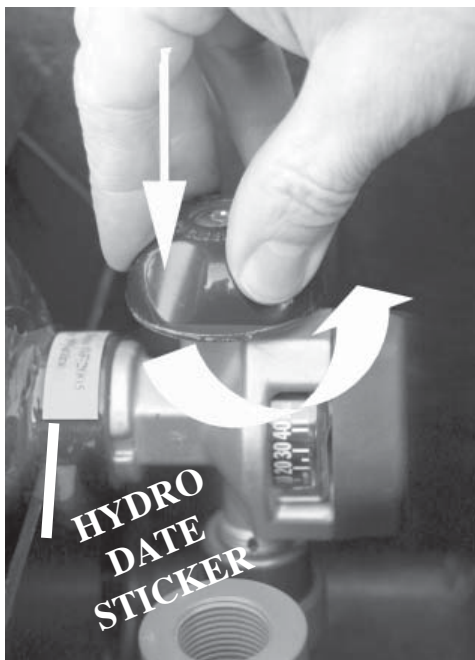

figure 3
3.0 PREPARATION FOR USE: First unpack the unit and check for damage caused by shipping. Next, open the case.. Verify the hydrostatic test date of the supply cylinders, shown on a sticker prominently displayed on the cylinder (figure 2) and on the neck of supply cylinders (figure 3). This should also be written on the maintenance log, located on the lower right hand corner of the instruction sheet.
- △ 3.1 NOTE: THESE CYLINDERS (CYL1) REQUIRE HYDROSTATIC TESTING EVERY 5 YEARS, BY A DOT-APPROVED TEST FACILITY. CHECK DATE STICKER ON CYLINDER (figure 2), OR ON CYLINDER NECK. (figure 3)
5.2. Open the valves (VAL1) on the supply cylinders (figure 3). Valves lock in place when released. To release, push the knob while turning. Verify that the pressure in the supply cylinders is between 3000 and 4500psi .
6.1. Verify that the cylinders (CYL1) are within 5 years of the last hydrostatic test. Check the dated sticker placed prominently on each cylinder (figure 2). There is also a sticker on the cylinder neck, visible without removing MRS top plate (figure 3).
REFER TO FIGURE 3 (page 2) FOR A PICTURE OF THE VALVES